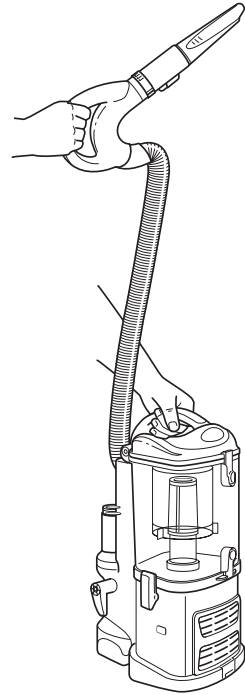

Fig. 10
- 3 Attach an accessory onto the wand or the handle. (Fig. 10)